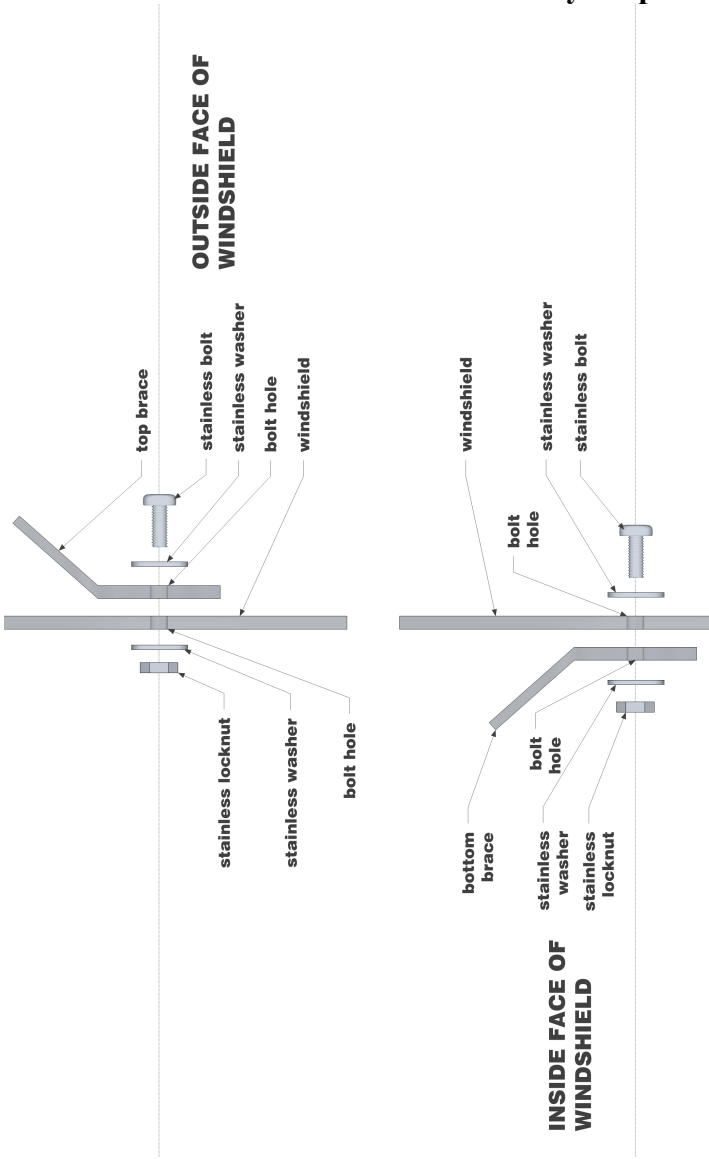

fig.1
3. Install the 53" rubber gasket provided along the bottom of the windshield. Take care to seat the gasket fully to the bottom edge contour. Install the top and bottom braces using 1 stainless bolt, 1 stainless locknut, and 2 stainless washers per hole. On most models, the bottom brace is widest (installed *inside* the windshield), with the narrower brace used at the top (installed *outside* the windshield). Other models use the same brace top and bottom. On the Teryx model in particular, the top brace is trapezoidal in shape to accommodate the factory hard roof. The bolts should be installed through the front of the windshield with the bolt head facing forward, the locknuts on the back of the windshield facing rearward, with one washer under the bolt head and one washer behind the locknut at the rear. Install both braces using this sequence; even though the bottom brace is installed inside the windshield the bolt heads should still face forward, and hardware orientation remains the same as stated above (see fig.1).